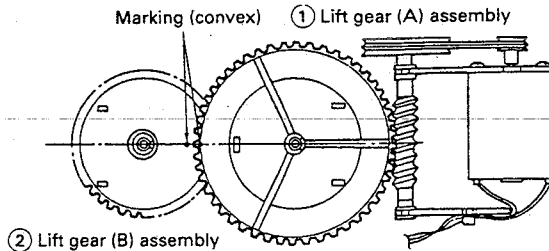

Fig. 20
- 1) Mount the lift gear (B) assembly ② and lift gear (A) assembly ① on the right side facing to the set. At this time, align the markings of two gears as shown in Fig. 20.